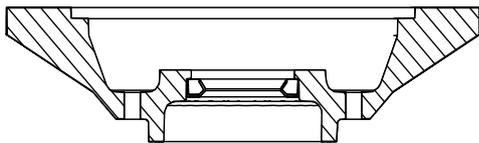

Fig. 13.21
- Insert lipseal (P201) into adaptor stool (1730) in orientation shown in Fig. 13.21 and pack with grease